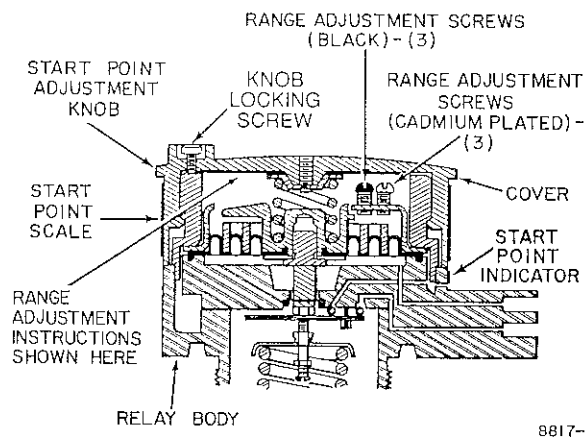

Fig. 2. Adjustment Points of MO953/MP953A and B Gradutrol Relay.
1. Use Wrench 301572A to loosen the cover locking screw (Fig. 2).
2. Tighten knob by turning it until it is seated on relay body (Fig. 2).